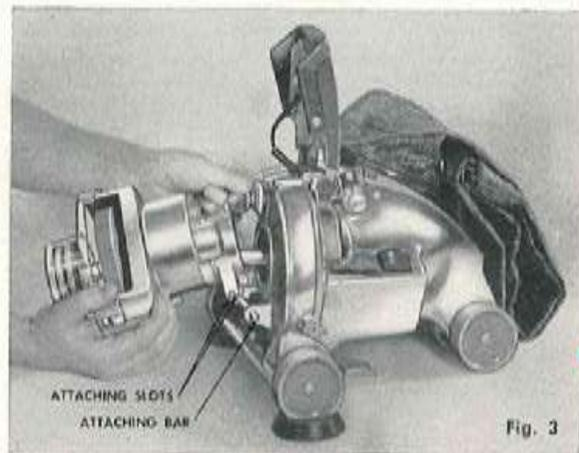

Fig. 3
STEP 3: Raise the Floodlight Hood. Hold the Handi-Butler so the Attaching Slot is on the Attaching Bar which is just below the Belt Drive Shaft. (Figure 3) The Belt Drive Shaft should enter the large round opening and pass through the loop formed by the belt.
STEP 5: Turn the Belt Lifter lever to the "ON" position and the unit is ready for operation. Rubber cups which are provided may be placed under the front wheels to steady the unit (figure 3).